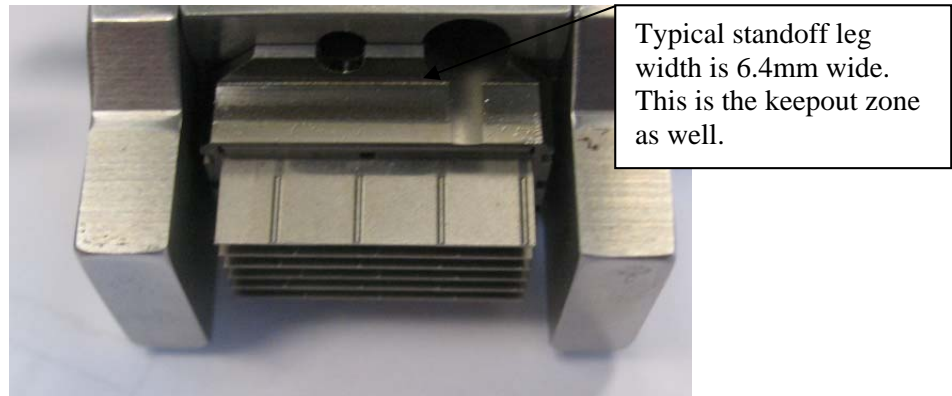

Figure 10. Module Removal Tool
- Step 1. Locate the Module Removal Tool for the proper family size (2pair, 4pair, etc.. from tables 1 and 2). A 6 column removal tool will also work for an 8 column module. There are also simplified tools for 24 column modules. Be sure there is enough room on either side of the board-mounted module sidewalls for the exterior standoffs. See Figure 10 for an example of a Module Removal Tool.